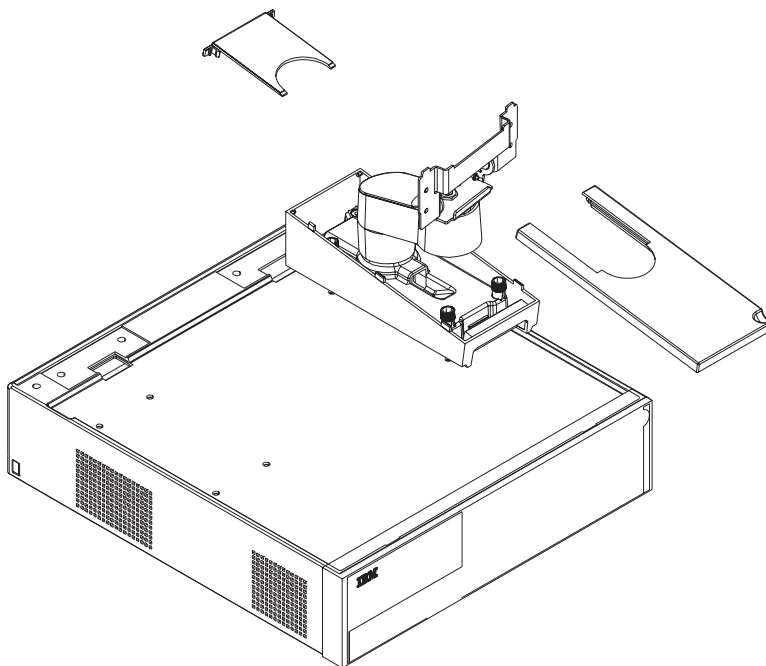

Figure 2-30. Securing the arm assembly to the SurePOS 720, 740, 780
7. As shown in Figure 2-30 on page 2-26, place the filler panel covers on the arm assembly.